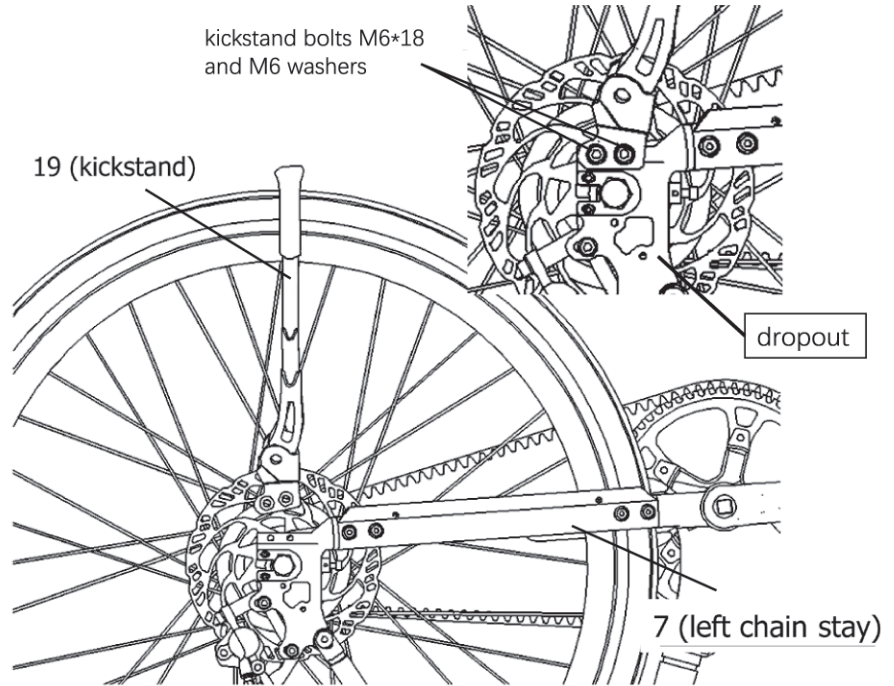

Figure 43: Affix the kickstand onto Part 7.
- b. Use a 5 mm Allen key to affix Part 19 onto the dropout of Part 7, as shown in Figure 43.